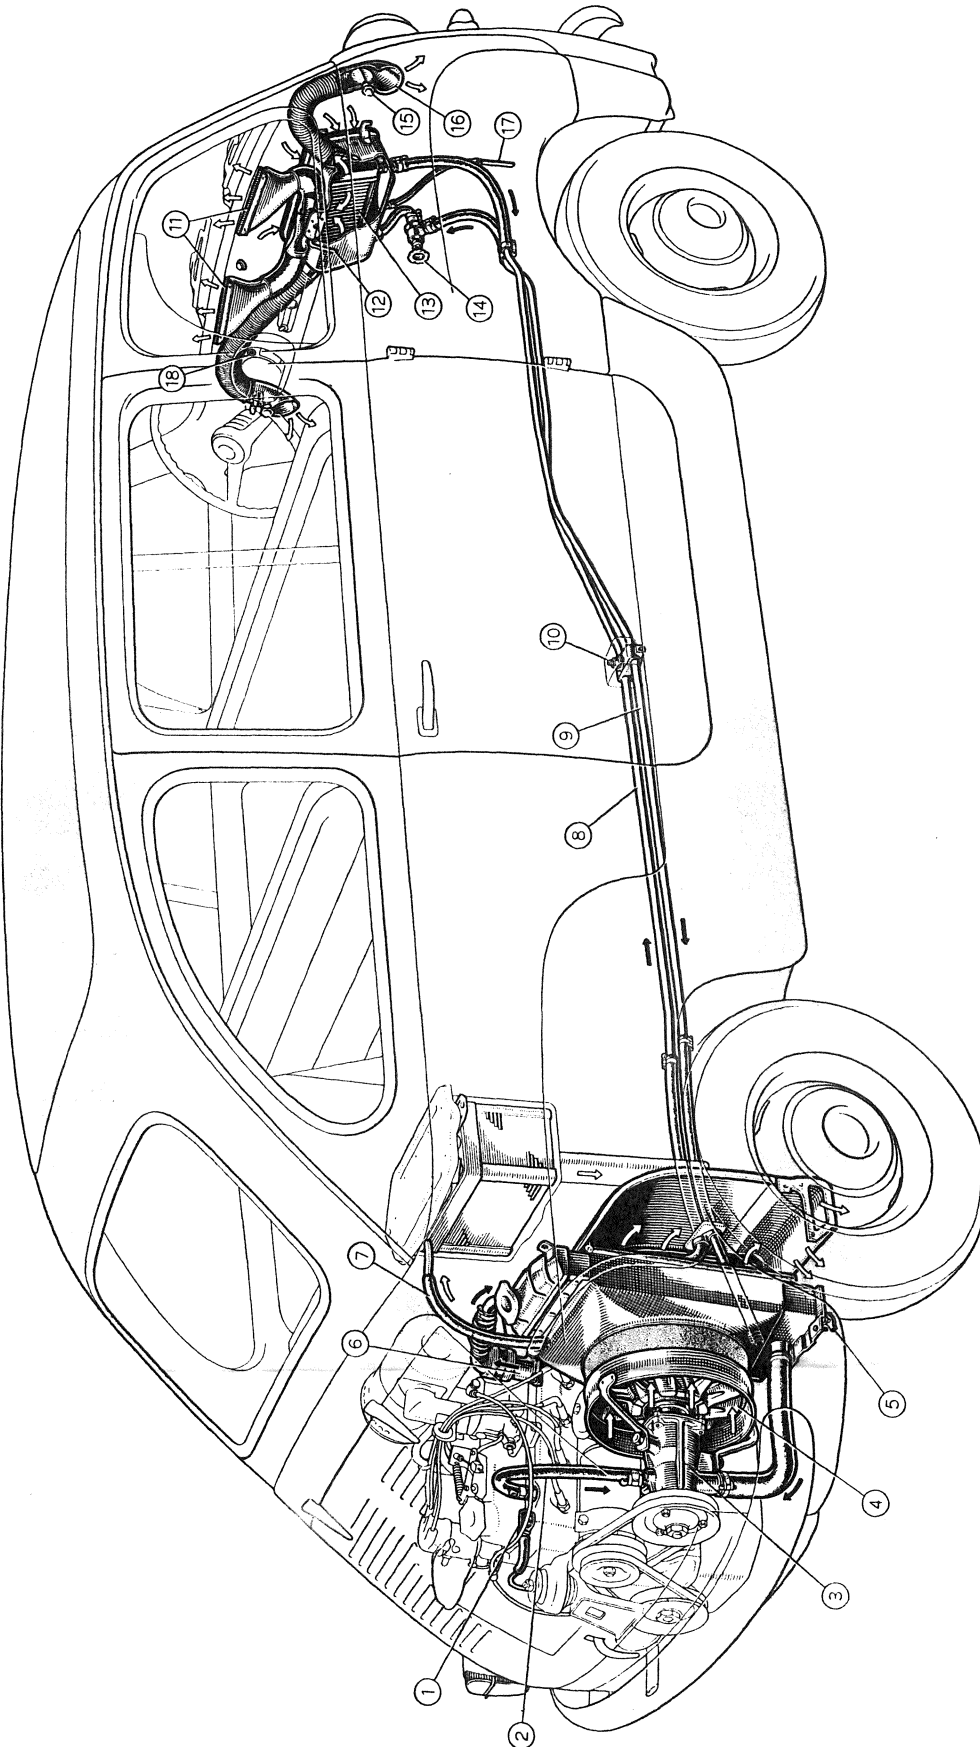

Fig. 381 - Engine cooling and car heating systems (Multipla).
Conditioned air may either be warm or cold depending on seasonal requirements, and may be circulated directly on windshield (demisting or defrosting) and in car (heating) simultaneously or separately for either purpose (fig. 381).
freeze mixture (or equivalent) to prevent freezing of water in the cooling system and in heater radiator (13, fig. 381) which is exposed, during vehicle operation, to a strong air draft coming in through the grille. If in winter the car is kept inoperative for some time and the cooling system is not filled with an antifreeze mixture, besides draining the engine and the engine cooling radiator, drain also the heater radiator and lines by opening cock (10, fig. 381).
- a) open heater radiator water inlet cock (14, fig. 381);